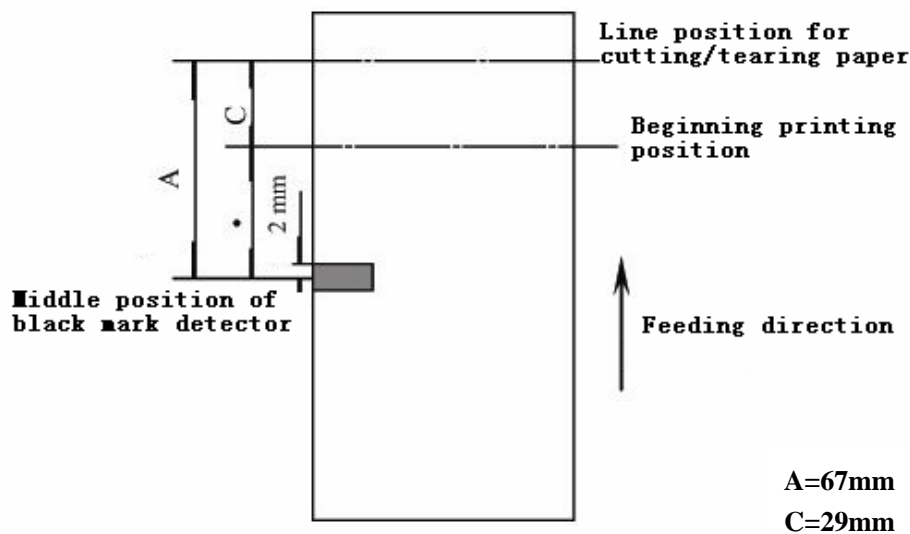

Figure 7-1
4. The inherent mechanical value of the printer: $L_0 = A$ (mm) $Q_0 = C$ (mm) (shown as figure 7-1).